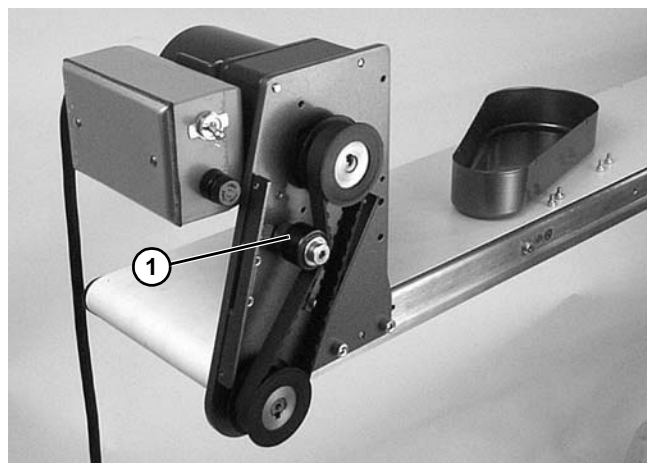

Figure 18
2. Loosen tensioner (**Figure 18, item 1**).